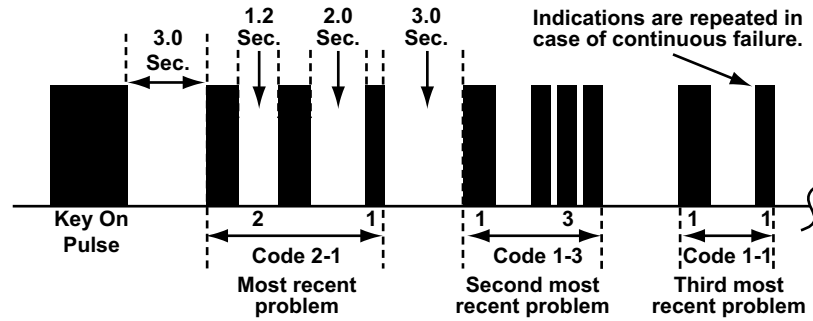

Figure 8-22 Honda SRS Code Type 06 - Continuous Failure, SRS indicator blinks like this
- Type 06 with a continuous failure, see Figure 8-22 and Table 8-13 on page 69